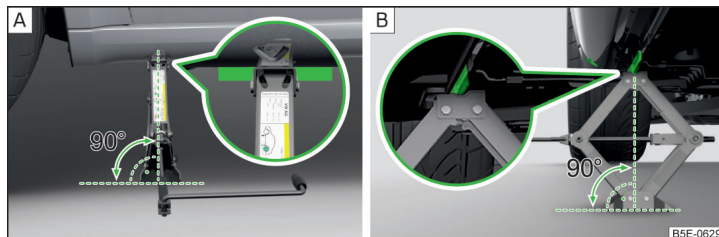

Fig. 325 Attach lifting jack
- › Support the base plate of the jack with its full area resting on level ground and ensure that the jack is located in a vertical position at the jacking point » Fig. 325 - [A].
- › Use the crank to raise the jack until its claw encloses the bar » Fig. 325 - [B].